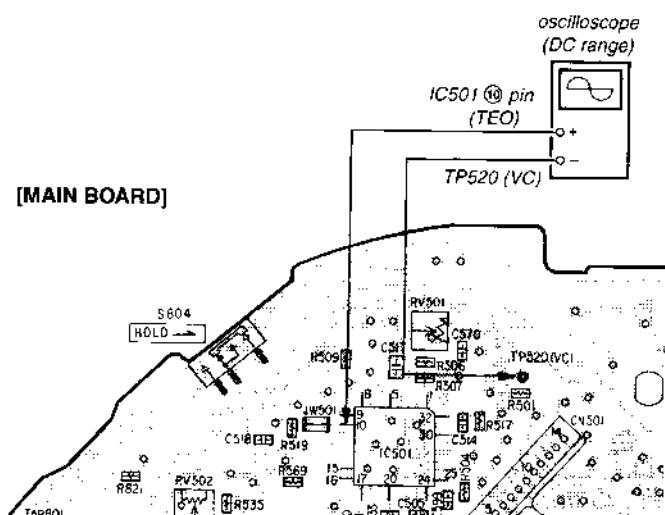

Fig. 5
1. Connect the oscilloscope between IC501 (⑩ pin (TEO) and TP520 (VC) on the MAIN board as shown in Fig. 5.